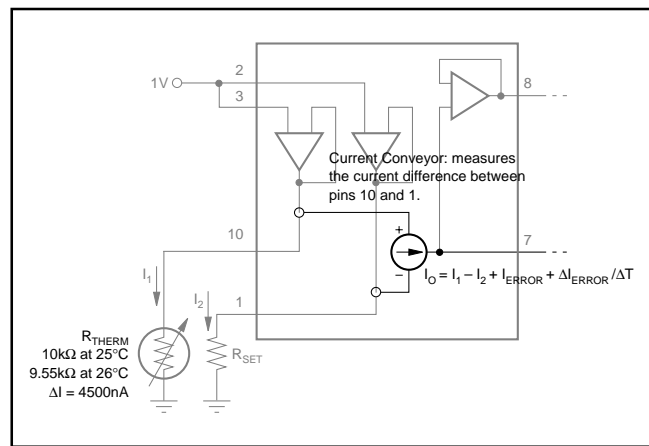

FIGURE 2. Current Conveyor Portion of the INA330.
NOTES: (1) Total errors in voltage seen between pin 1 and pin 10. (2) See Figure 2.
The INA330 errors are extremely low. The primary errors in the INA330 occur in the current conveyer circuitry, as shown in Figure 2. Equal currents in  $R_{SET}$  and  $R_{THERM}$  produce a small output current error of 200nA (maximum), and some variation with temperature of 40nA (maximum). The offset is calibrated out. Only the variation affects set-point stability.